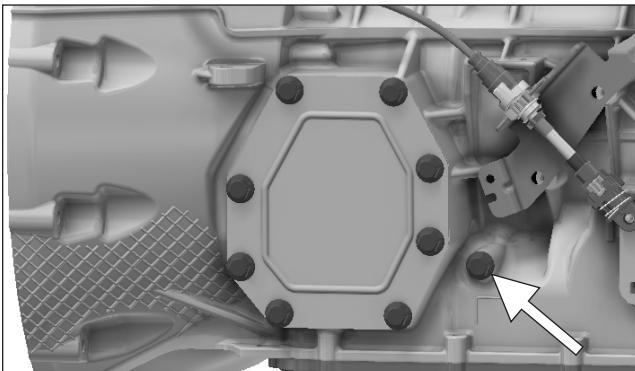
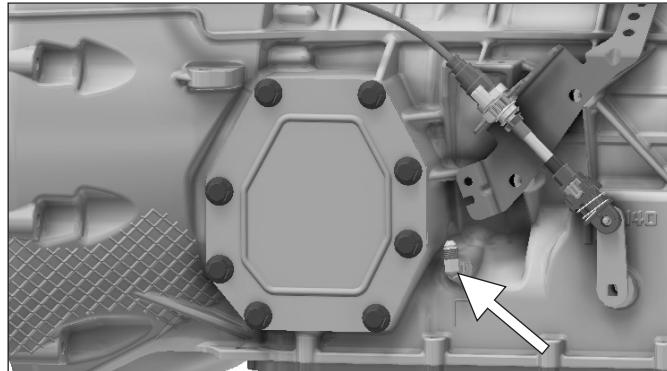

Figure 30
Figure 31
- Remove the plug from the transmission pressure port (**Fig. 30**) and install fitting 380750 in the opening (**Fig. 32**). Torque to 10-12 lb-ft [13-16 N-m]. See (**Fig. 31**) for recommended fitting orientation.